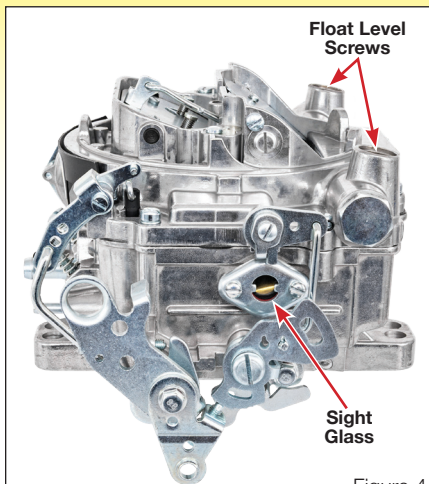
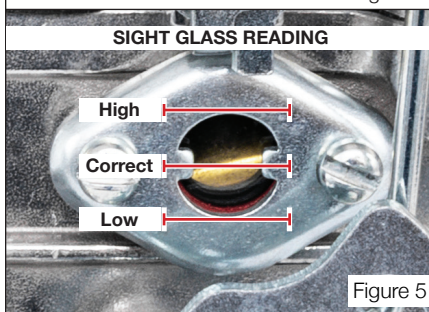

Figure 4
Figure 5
2. Inspect sight glass. (Fig. 4) If no fuel is visible the level is too low. If the fuel is above the midway point the level is too high. (Fig. 5)